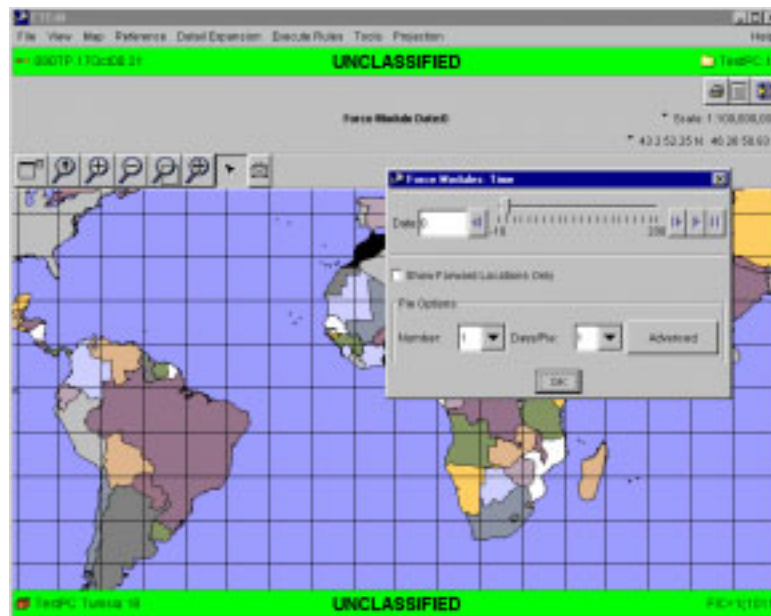

Figure 5.93 ETEdit (Map) and Force Modules Time Windows
3. On the ETEdit (main) window, on the View menu, click Unit Viewer. The ETEdit (map) window opens (see Map Commands in Section 5.3), and the Force Modules: Time window is overlaid (Figure 5.93).